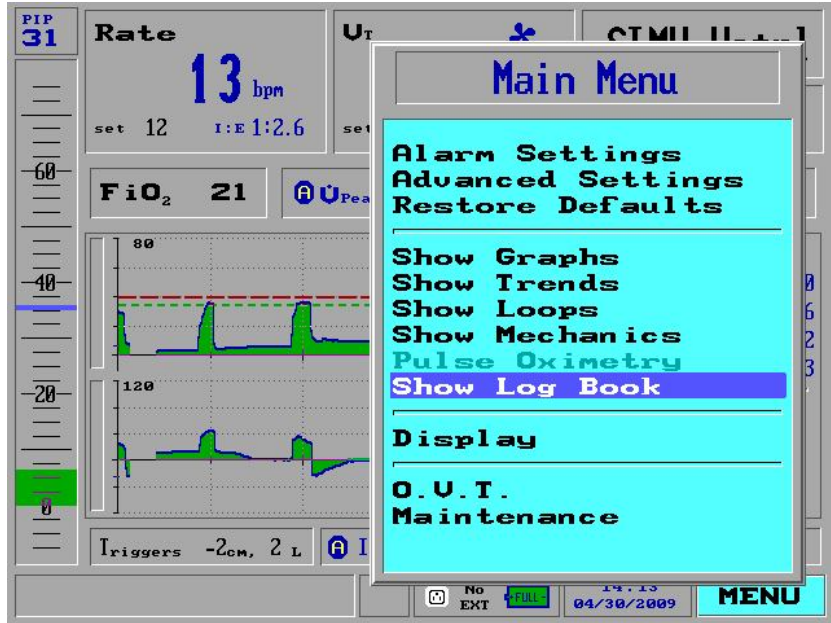

Figure 121: Show Log Book Selected on the Main Menu
2. Select the **Show Log Book** option (Figure 121).